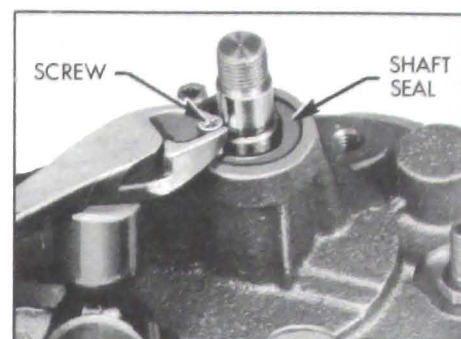
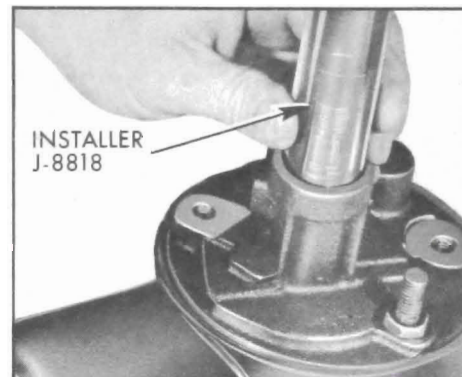

Figure 8-69—Removing Shaft Seal Without Disassembling Pump
Figure 8-79—Installing Shaft Seal
It is not necessary to disassemble pump to replace shaft seal. To remove seal, punch a small hole in metal surface of seal and thread a sheet metal screw into hole. Then place side cutters under head of screw and tap out seal. See Figure 8-69. Lubricate new seal with automatic transmission oil and install as shown in Figure 8-79.
18. Remove pump from vise. If shaft seal was removed, lubricate new seal with automatic transmission oil and drive in housing spring side first with Installer J-8818. See Figure 8-79. Just bottom seal in housing. Excessive force must not be used when driving seal in place.